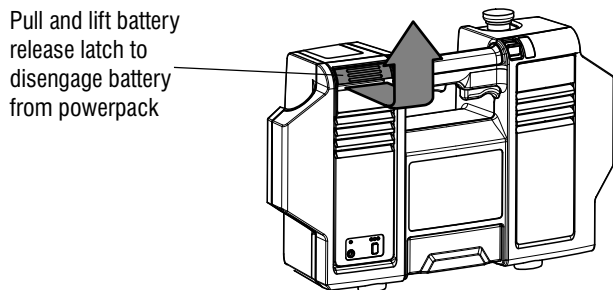

Figure 3-16. Removing the battery from the powerpack
1. Remove battery from powerpack (Figure 3-16.).